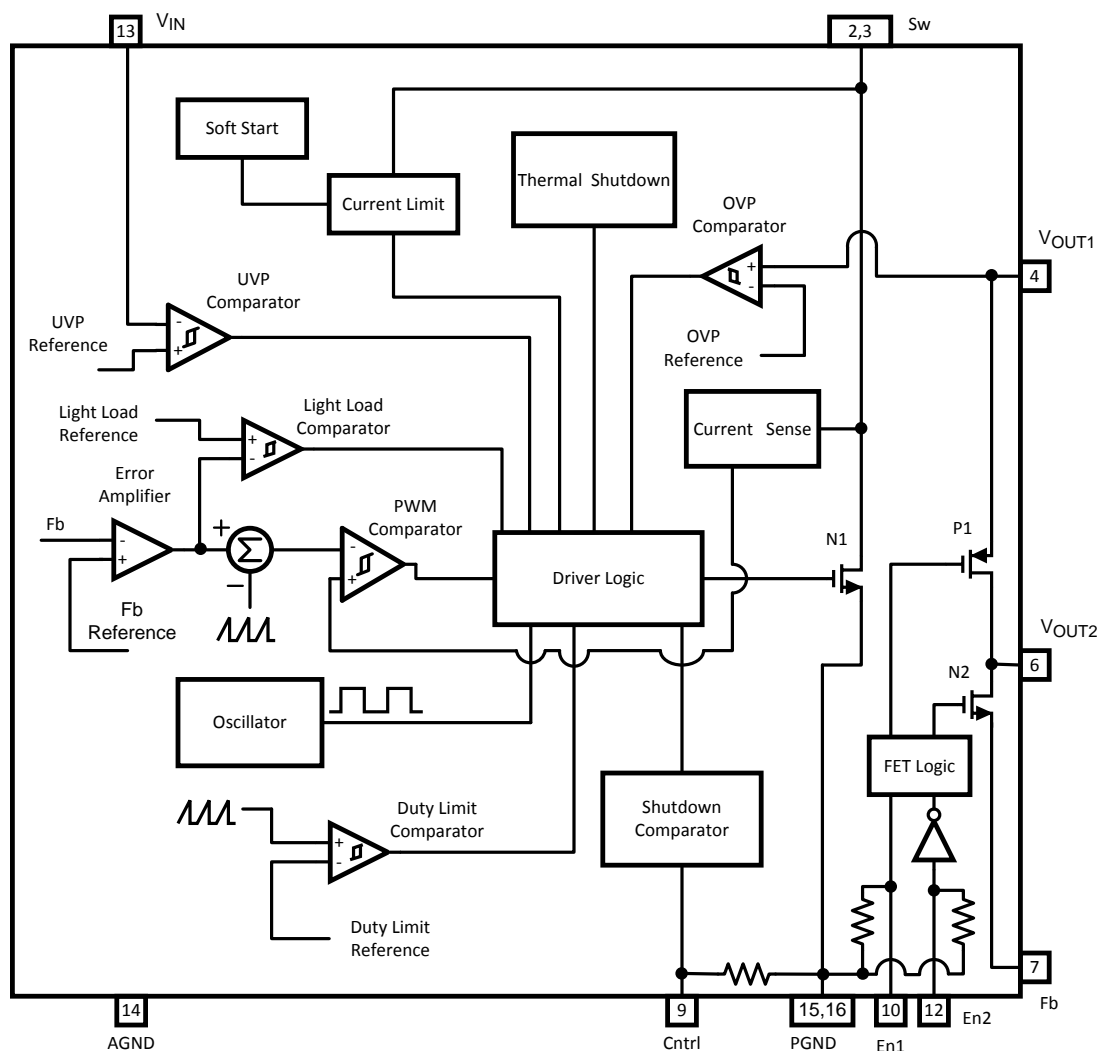

Figure 4. Block Diagram
(Figure 4: P1 and N2). It is recommended to connect 100nF at VOUT2 for the LM3502-35V
**$V_{OUT1}$  (Bump D1):** Source connection of the internal PMOS FET switch (Figure 4: P1) and OVP sensing node
**Sw (Bump D2):** Drain connection of the internal power NMOS FET switch (Figure 4: N1)
**En2 (Bump A3):** Enable pin for the internal NMOS FET switch (Figure 4: N2) during device operation
**En1 (Bump A2):** Enable pin for the internal PMOS FET switch (Figure 4: P1) during device operation
The LM3502 utilizes an asynchronous current mode pulse-width-modulation (PWM) control scheme to regulate the feedback voltage over specified load conditions. The DC/DC converter behaves as a controlled current source for white LED applications. The operation can best be understood by referring to the block diagram in Figure 4 for the following operational explanation. At the start of each cycle, the oscillator sets the driver logic and turns on the internal NMOS power device, N1, conducting current through the inductor and reverse biasing the external diode. The white LED current is supplied by the output capacitor when the internal NMOS power device, N1, is turned on. The sum of the error amplifier's output voltage and an internal voltage ramp are compared with the sensed power NMOS, N1, switch voltage. Once these voltages are equal, the PWM